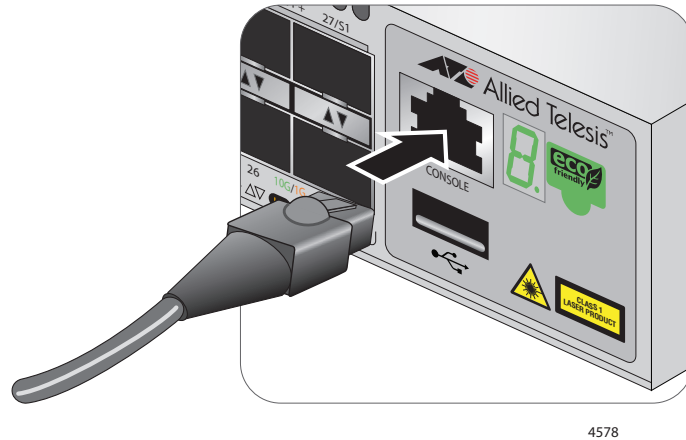

Figure 34. Connecting the Management Cable to the Console Port
1. Connect the RJ-45 connector of the management cable to the console port on the front panel of the switch, as shown in Figure 34.